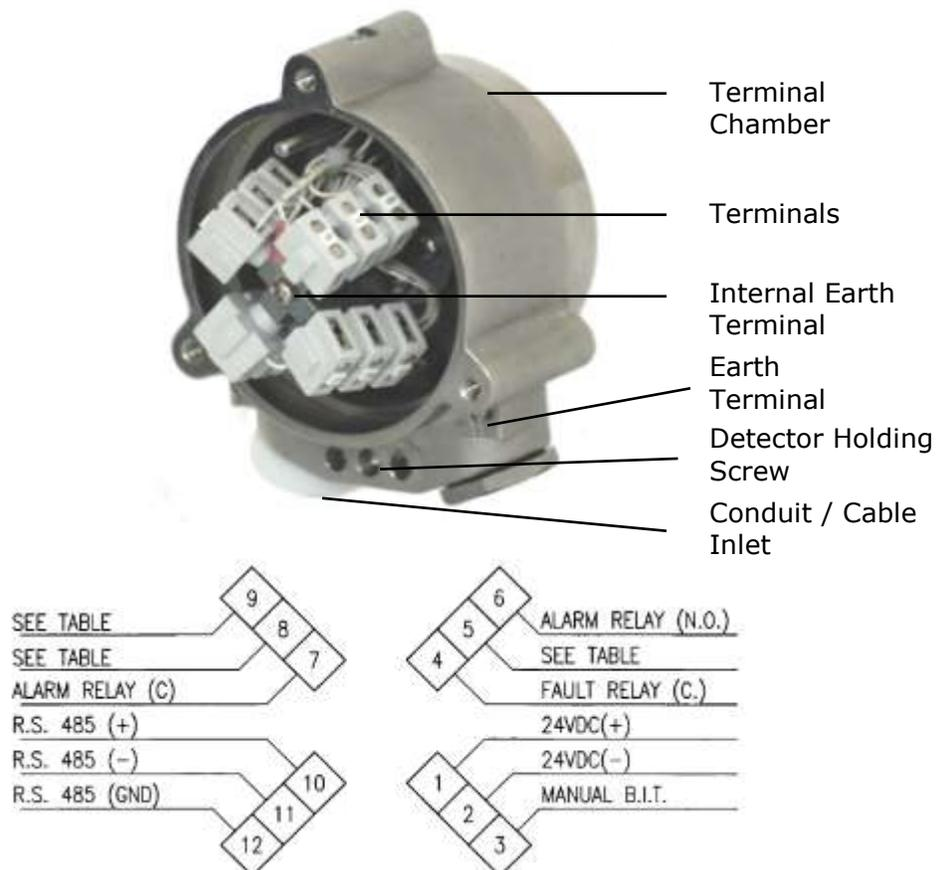

Figure 6: Detector with Cover Removed
This section describes how to connect the electric cabling to the detector (Figure 6).
- 5 Connect the wires to the required terminals on the Terminal Board according to the wiring diagram (Figure 6) and Table 17.
- 8 Check the wires for secure mechanical connection and press them neatly against the terminal to prevent them from interfering while closing the back cover (Figure 6).